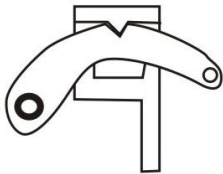

Fig.1
1. Following all safety precautions, place the foot of the jack beneath the load. Lift the Reversing Latch (20) to its "UP" position and ensure it is locked in place, with the indentation in the Latch firmly engaged in the
notch on the Reversing Switch (18)-refer to fig.1.Jack up the nose until it comes into contact with the load at the desired point of the lift. Pause at this stage and check to ensure no obstacles to a clean lift.